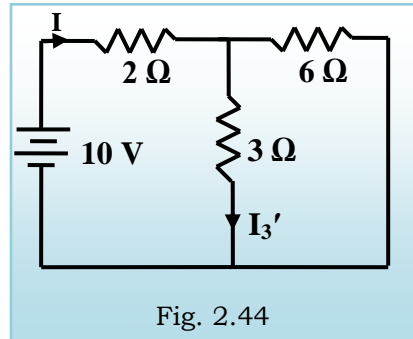

Fig. 2.44
**Solution:** When 10 V is acting alone, replace 15 V source by short circuit. Then the resultant circuit is given fig. 2.44.